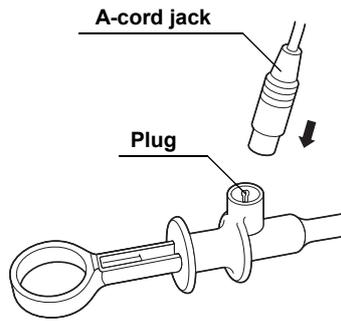

Figure 1
1. Insert the A-cord jack into the plug and confirm that it clicks into place (see Figure 1).